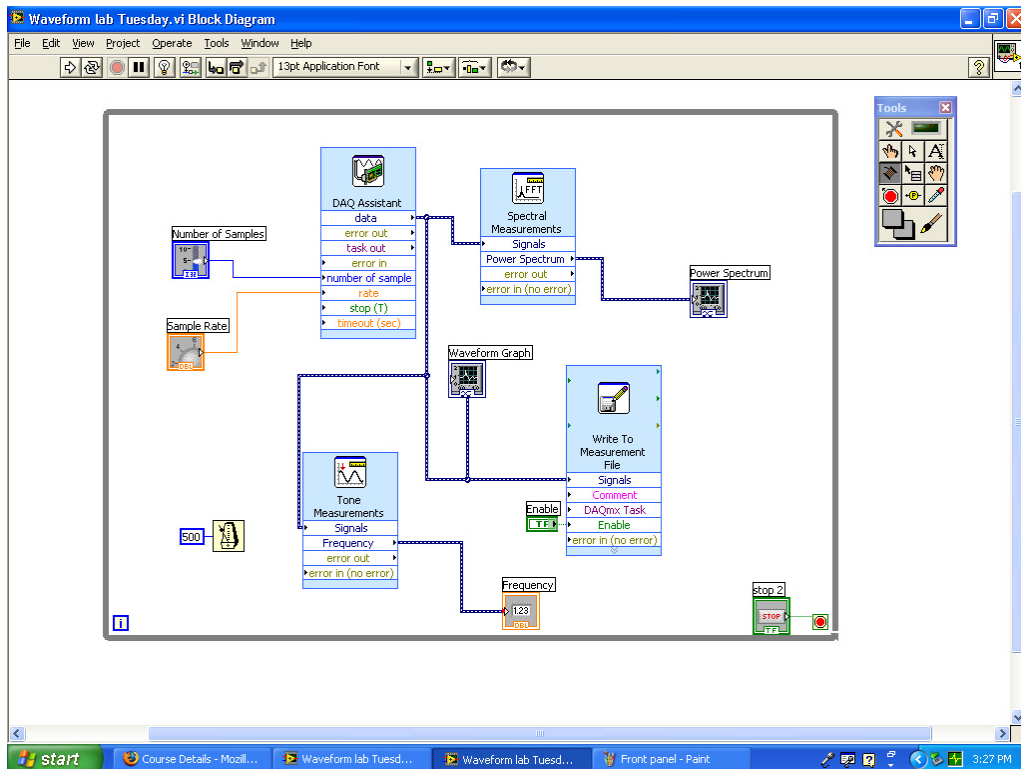

Figure 2. Example of the block diagram.
5. Organize the block diagram in an easy to read way (use Figure 2 as a guide)